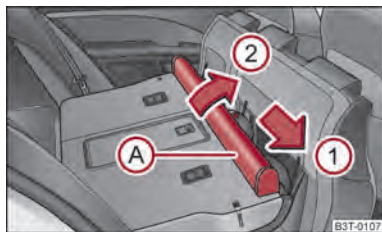

Fig. 84 Rear seats: Luggage net partition housing
- Push the luggage net partition housing **A** ⇒ fig. 84 in the direction of arrow **1** and take it out of the mount of the rear seats in the direction of arrow **2**.